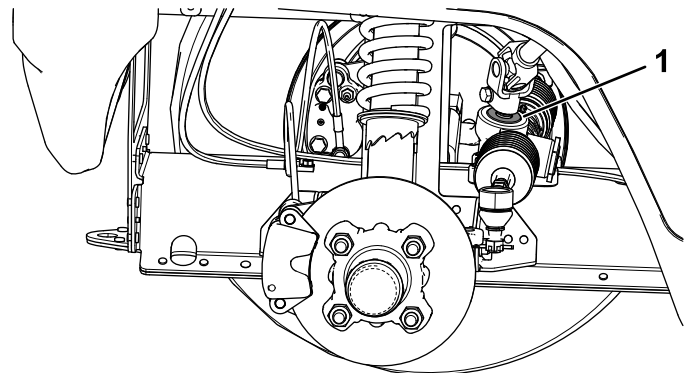

Figure 75
**Important:** Check the condition and security of the pinion-shaft seal (Figure 75).